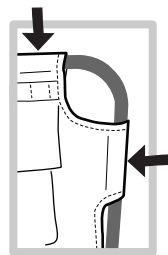

Figure 5
- b. The sleeve will go onto the straight leg (Figure 5).